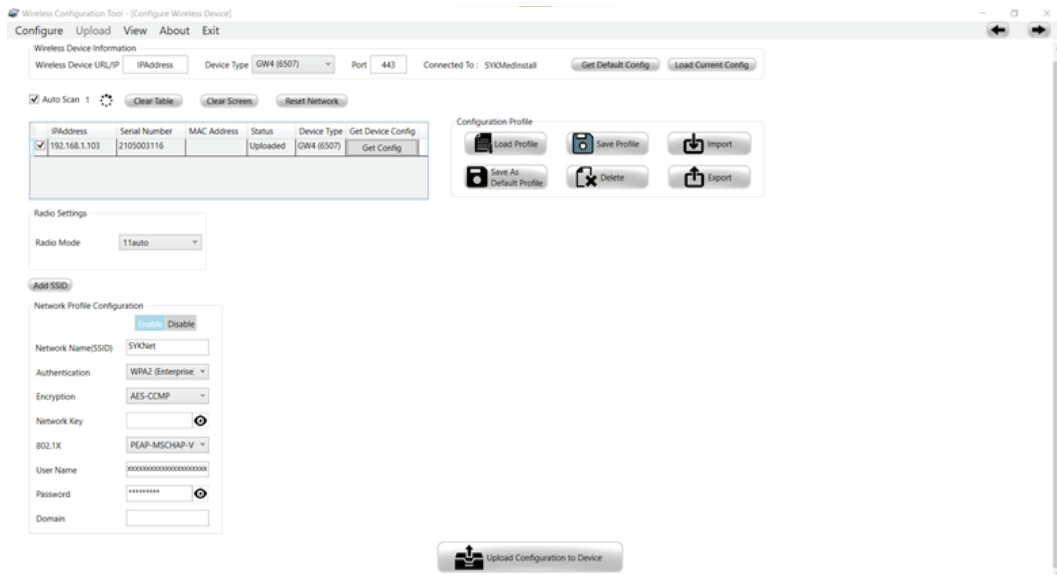

Figure 123 –
10. In the bottom of the Wireless Configuration Tool window, enter the SSID information for the SSID to be added to the cot (Figure 123).